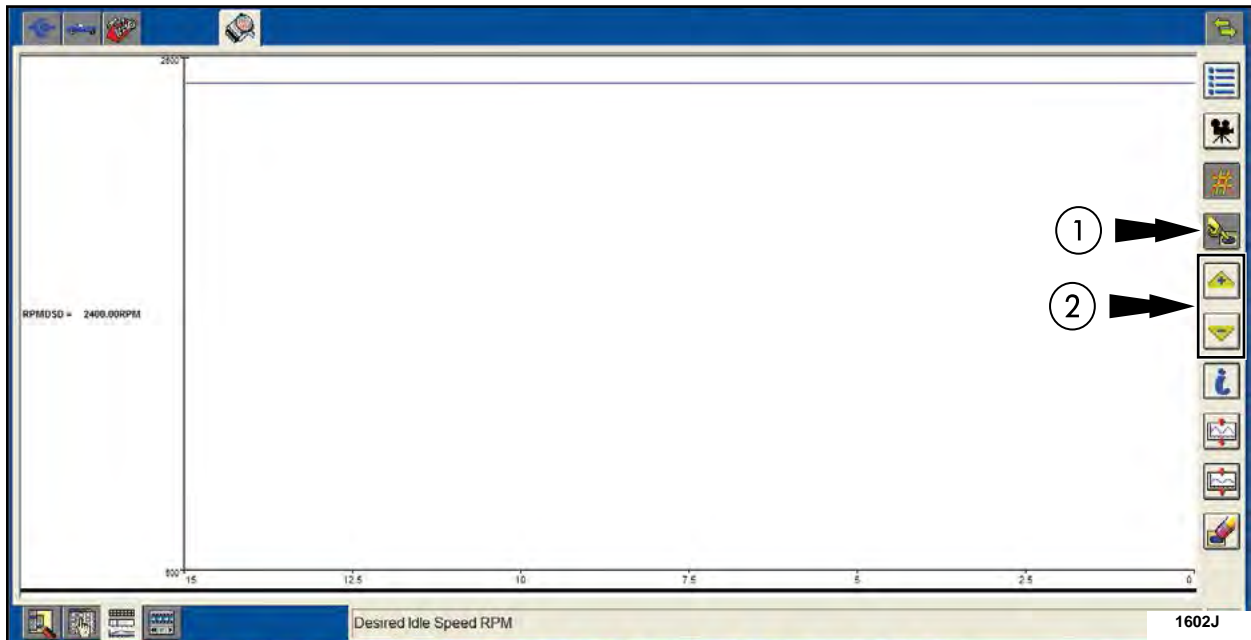

FIGURE 3
2. Select the control function and use the control function buttons to increase engine RPM 2,400 to 2,500 RPM for 30 minutes. See Figure 3.